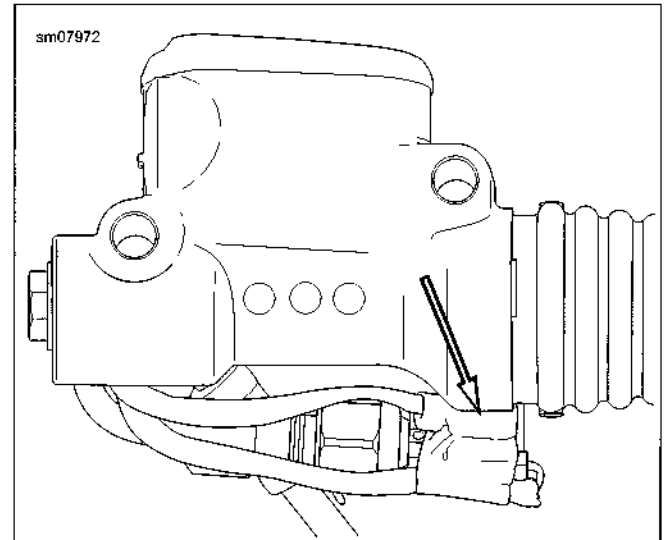

Figure 6-82. Stop Lamp Switch Spade Connectors [121-1]
2. See Figure 6-82. Install spade connectors [121B-1] and [121B-2].